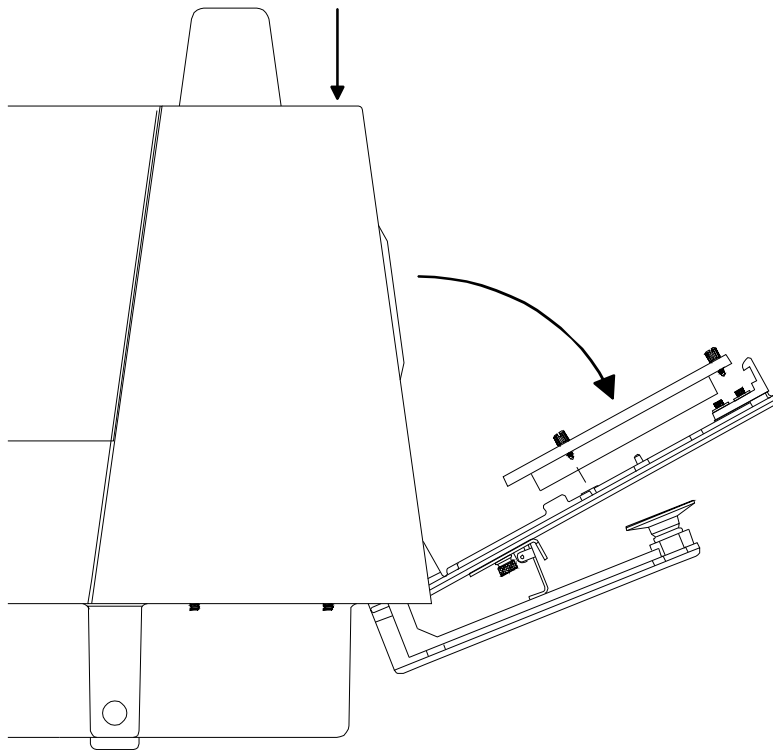

Figure 4-6. Aperture Mounting or Removal
- Press down on the viewport door release button and rotate the sample door to the full open position. The aperture can now be either mounted or removed. See Figure 4-6.